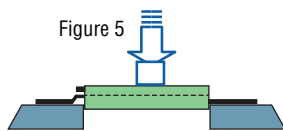

Figure 5
- e) Do not apply more than 2 N force to the breaker terminals (refer to Figure 5)